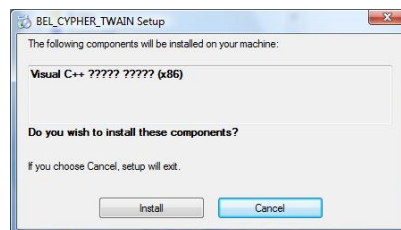

Fig 2 Visual C++ Run time Setup screen
- 4) The Visual C++ Runtime Setup screen such like Fig 2 is displayed. Click "Install"
⑤ Irradiate X-ray, then measure the feedback voltage between CP11 & CPCG (Tube voltage), and between CP12 & CPCG (Tube current). (Figure 2)